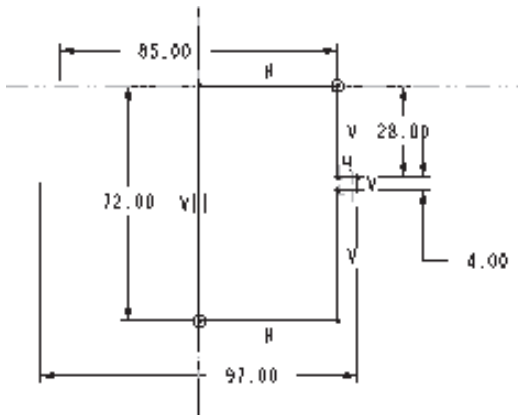

Figure 8-77 Sketch for the revolve cut feature
5. Once you enter the sketcher environment, draw a center line aligned to the **RIGHT** datum plane. Draw the sketch of the revolved cut feature and add dimensions and constraints as shown in Figure 8-77.